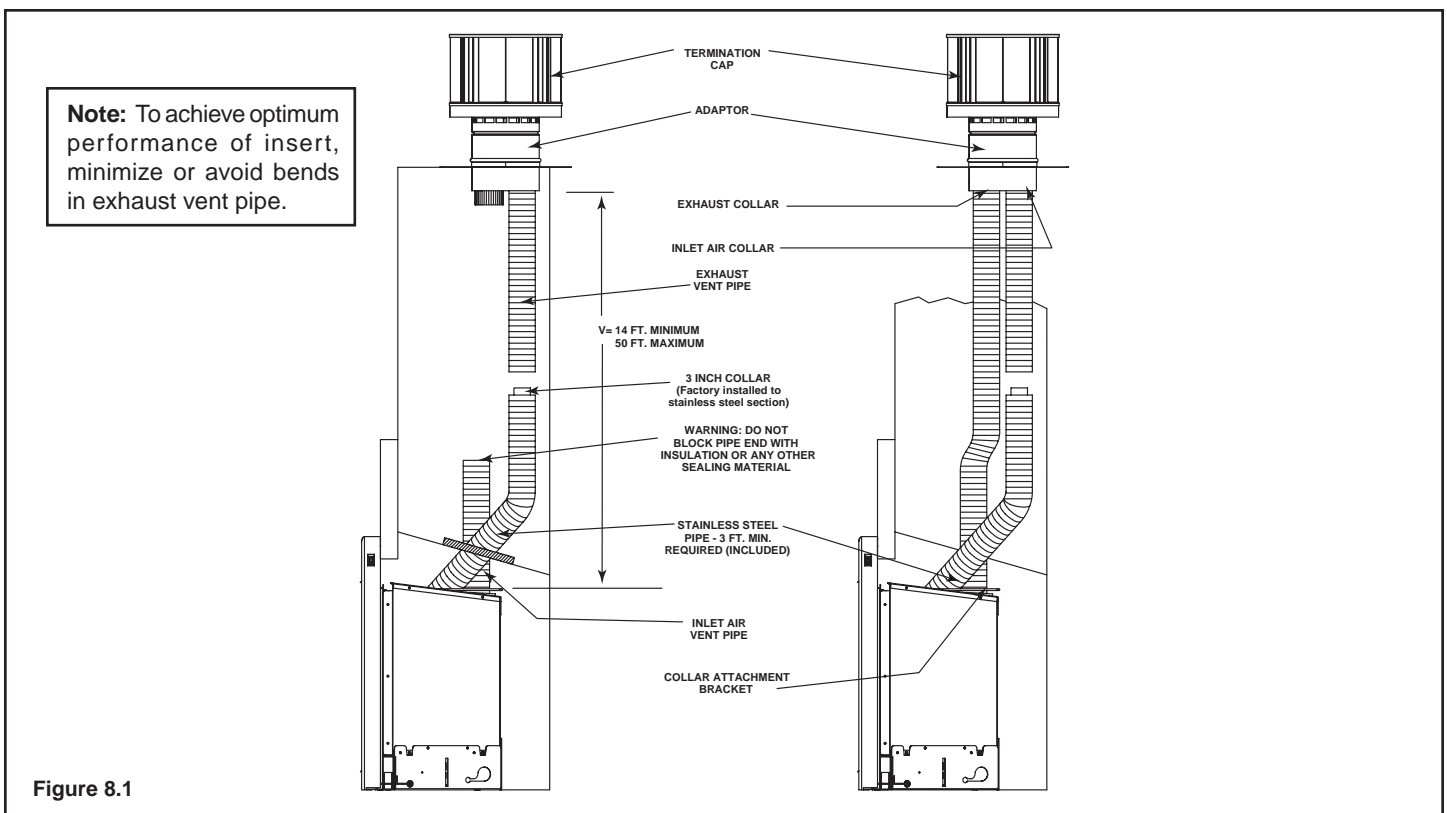

Figure 8.1
- Secure the exhaust flexible vent pipe to the 3 foot section stainless steel flexible vent pipe using the factory-installed 3-inch collar in the stainless steel section of pipe (see Figure 8.1).
- Use 3 screws to attach either a 4 foot or 30 foot section of inlet air vent to the inlet collar on the collar slide plate (see Figure 8.1). NOTE: The collar slide plate may be removed from appliance to aid installation.